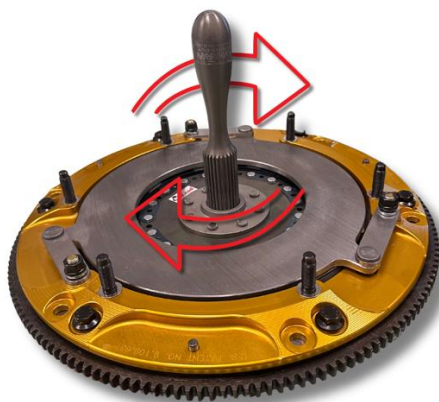

Figure 5
5. Place the floater and adapter ring on flywheel using either OEM or supplied pressure plate bolts. **Some kits are supplied with new bolts for attaching the ring to the flywheel. USE THESE BOLTS as they provide necessary clearance. Do NOT add any washers to any location if they were not present with the McLeod clutch assembly.** Torque these bolts to spec. Insert the pilot tool and rotate disc. The disc should be free and clear. See Figure 5.